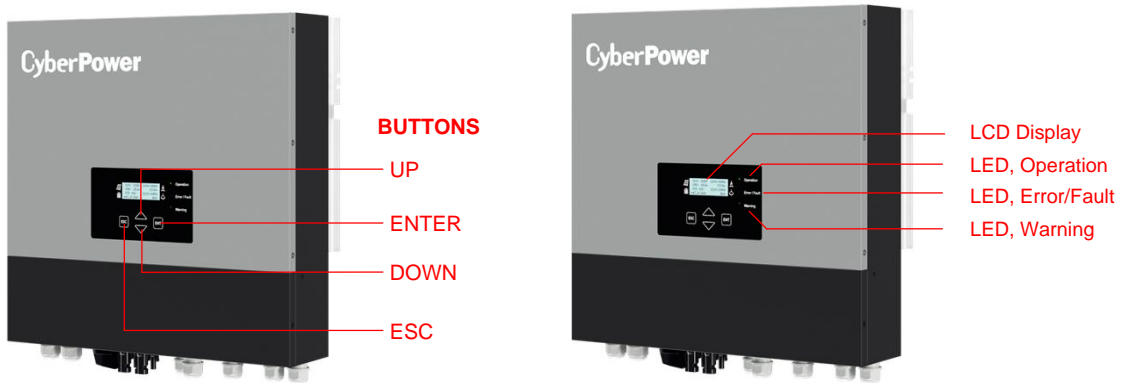
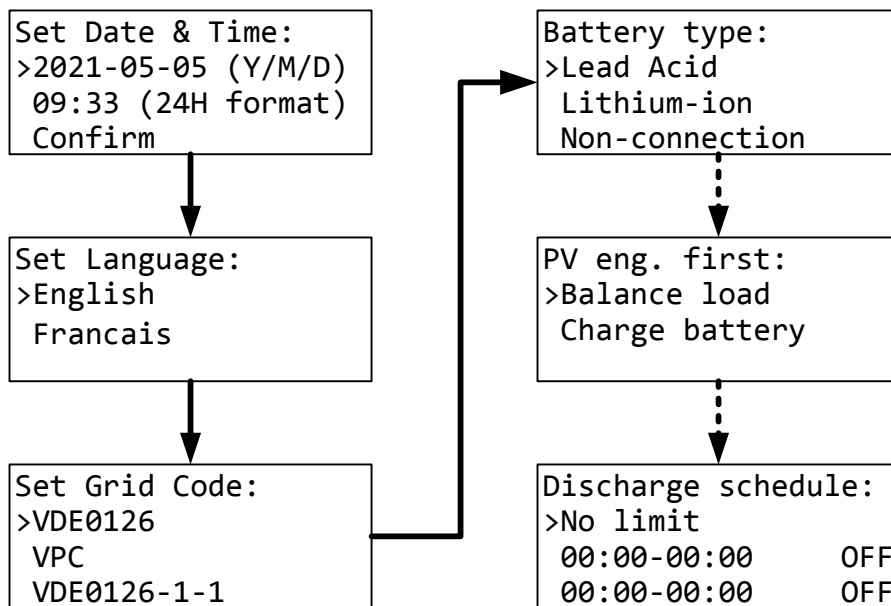

Fig. 4-1 Buttons, display and LEDs positions
Fig. 4-2 Settings for 1st start-up
4. Wait for few seconds and the display will show some information as below, set up the settings. Fig. 4-1 shows the display, LED indicators and buttons positions. Fig. 4-2 shows the 1st start-up setting procedures, please select the correct settings according to local grid code, battery type and priority. If set Priority as “Charge battery”, also need to set “Discharge schedule”.